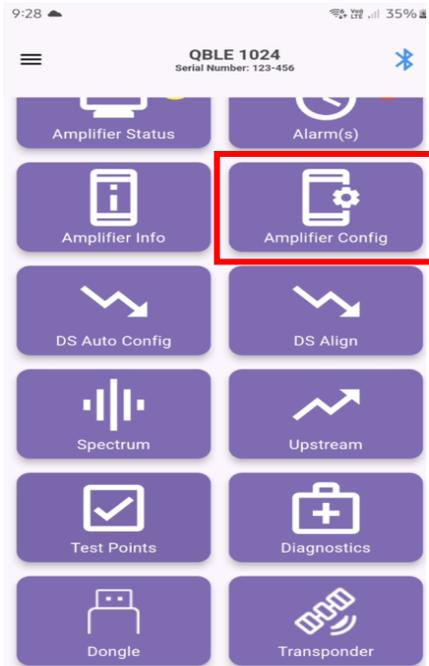

Figure A- 7: Amplifier Config Tile
3. From the Home screen, select the Amplifier Config Tile Figure A-7.